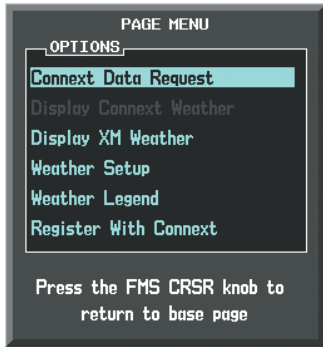

Figure 6-66 Weather Data Link (CNXT) Page Menu
- 3) With 'Connex Data Request' highlighted, press the **ENT** Key (Figure 6-66).